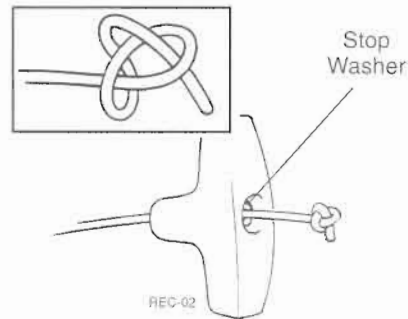

Figure 4.12 Tying the Stopper Knot
STEP 6. Thread the handle and stop washer onto the starter rope in the reverse order of removal, and tie a stopper knot to lock the handle on the rope. Figure 4.12.